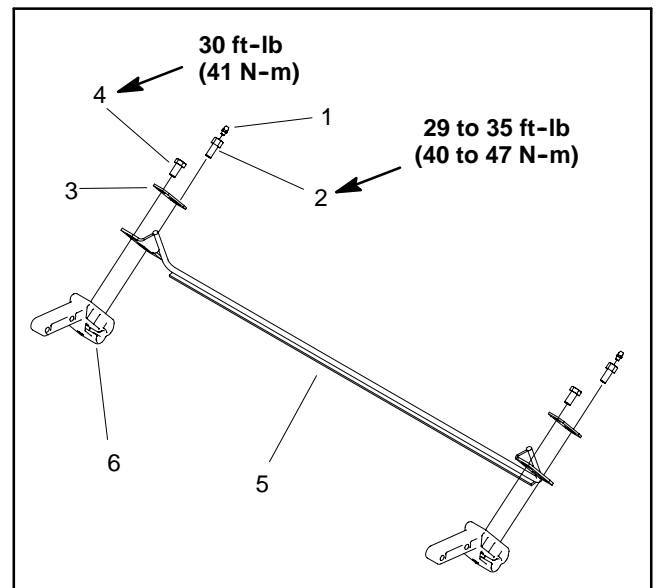

Figure 10
2. If cutting deck is equipped with a roller scraper (Fig. 10), remove fasteners securing left and right scraper rod brackets to roller mounts. Remove scraper rod assembly.
3. Remove four (4) flange head screws securing roller mounts to rear of deck frame. Remove roller mounts and rear roller assembly from deck frame.
5. If equipped with scraper rod, install and adjust scraper rod assembly to roller mounts (Fig. 10). The gap between the scraper rod and roller should be from 0.020 to 0.040 in (0.5 to 1.0 mm). Torque cap screws **30 ft-lb (41 N-m)**.
6. Install and tighten fasteners that secure each end of roller to roller mounts. Torque roller shaft screws (item 4) and cap screws (item 8) from **29 to 35 ft-lb (40 to 47 N-m)**.